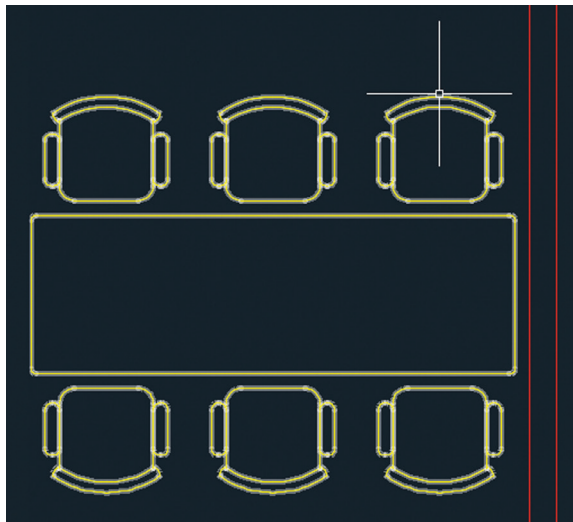

FIGURE 7.26 Reconstituted group after its constituent objects have been deleted, added, and stretched
- Click the Group Selection On/Off toggle in the Groups panel (turning it on). Hover the cursor over the desk and observe that the entire group is highlighted (see Figure 7.26).